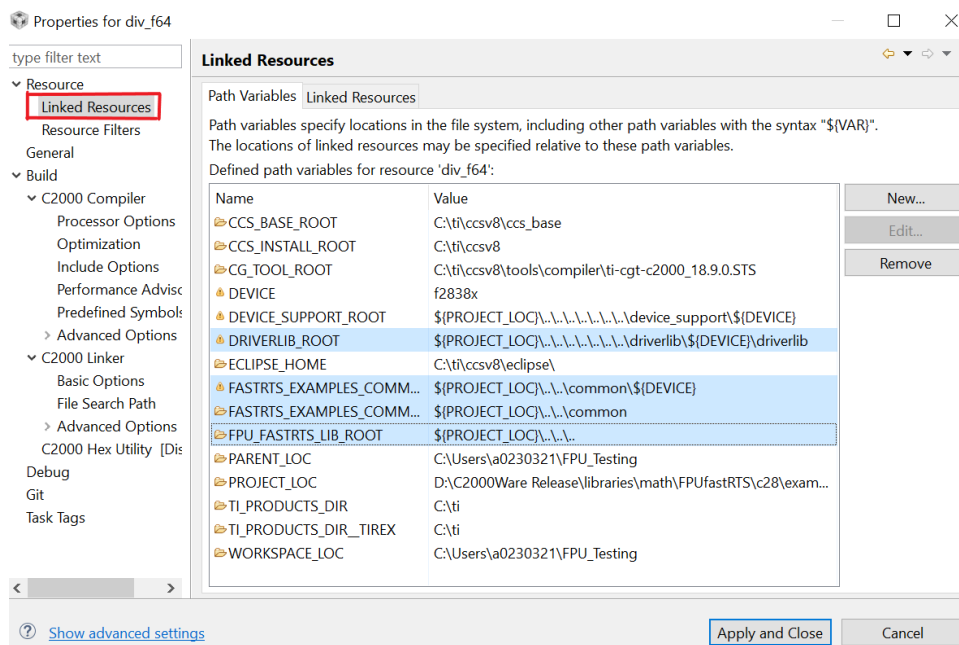

Figure 4.4: Creating a new build variable
1. Go to the **Project Properties->Resources->Linked Resources->Path Variables Tab** and add a new variable (see Figure 4.4), **FPU\_FASTRTS\_LIB\_ROOT**, and set its path to the root directory of the floating point Fast Runtime Support library in c2000ware; this is usually the **c28** folder.